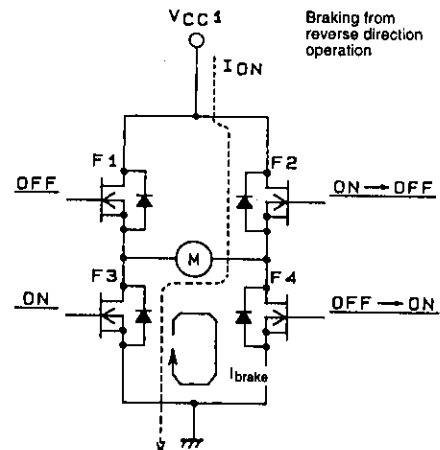
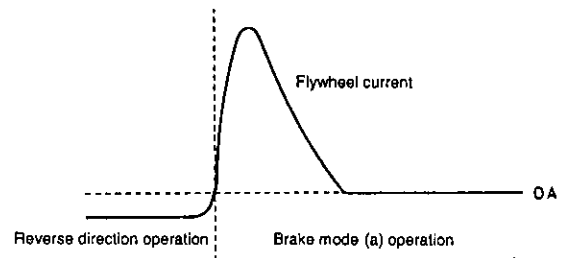

Figure 9. Brake mode (a) current flow
Figure 10. Motor flywheel current
- In brake mode (a), the lower MOSFETs are used for speed damping, or braking (Fast Motor Stop). The motor is effectively short circuited and, therefore, the flywheel current rises rapidly and the lower FETs can become overloaded. Figure 10 shows the overload flywheel current flowing in the F3 and F4 loop shown in Figure 9. Precaution should be taken if using this mode to ensure that the overload flywheel current flowing in the lower FETs does not exceed the maximum rating of the hybrid IC.